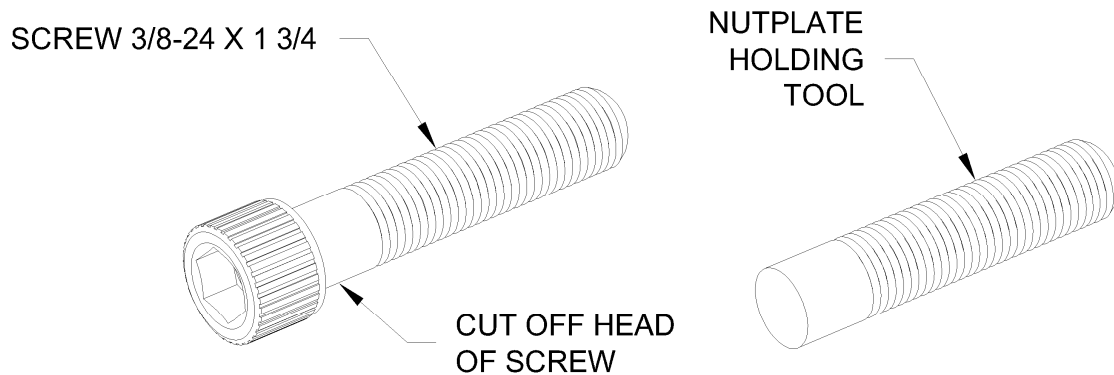

FIGURE 3: NUTPLATE HOLDING TOOL
Step 3: Cut off the head of a SCREW 3/8-24 X 1 3/4 to make a tool to hold the nutplate in place in the following steps. See Figure 3.